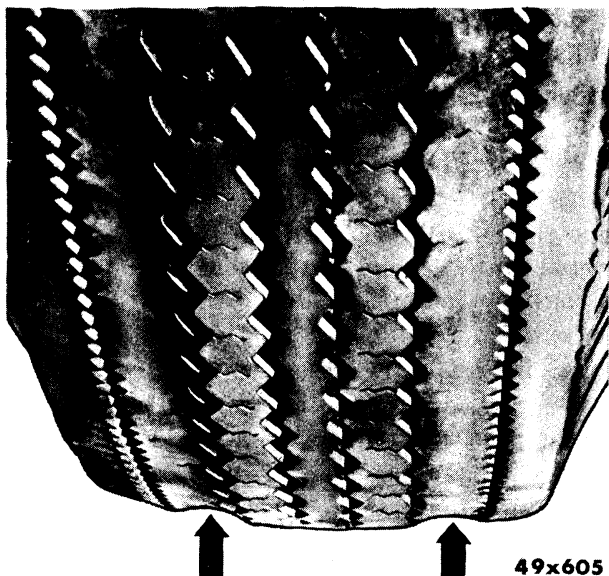

Fig. 28—Under-Inflation Wear
a. Inflate tires to proper pressure recommended in Paragraph 18. Refer to Figure 28. When tires are under-inflated, excessive wear occurs at the two tread ribs next to the inner and outer shoulder ribs. Wear occurs at center of tread when tire is driven over-inflated.